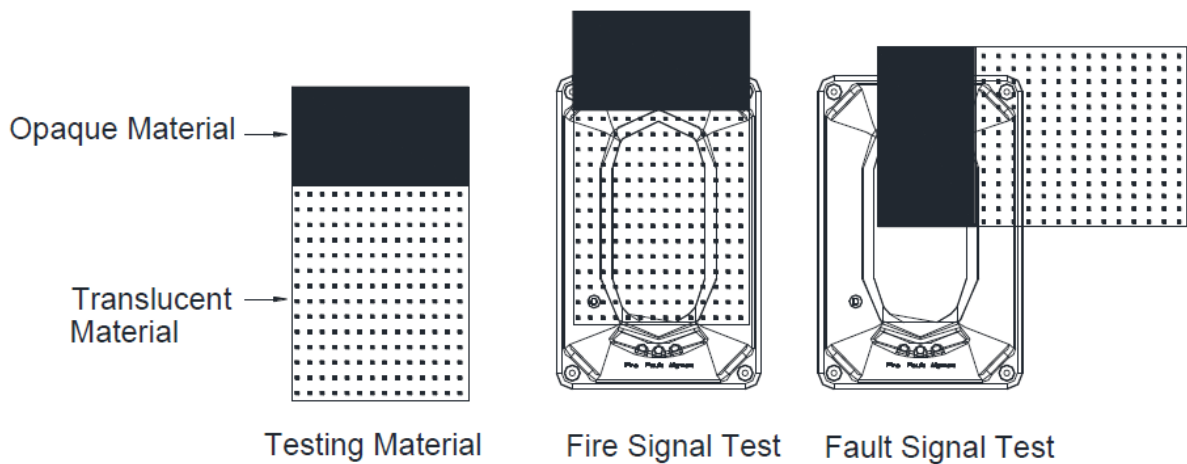

Figure 9: Testing Details
- a. Using supplied Opaque/Translucent materials, block the entire beam detector with the translucent portion of the material. With less than 30 seconds the Red LED [Fire] will turn on steady, indicating Fire signal. [The fire alarm relay [HJ1 and HJ2 will latch to normally close]. Refer to Figure 9.
- a. Using supplied Opaque/Translucent materials, block the half of the beam using the opaque portion of the material. Right after the Yellow LED [Fault] turns on, indicating the fault signal. [The fault alarm relay GZ1 and GZ2] will latch to normally close]. Refer to Figure 9.